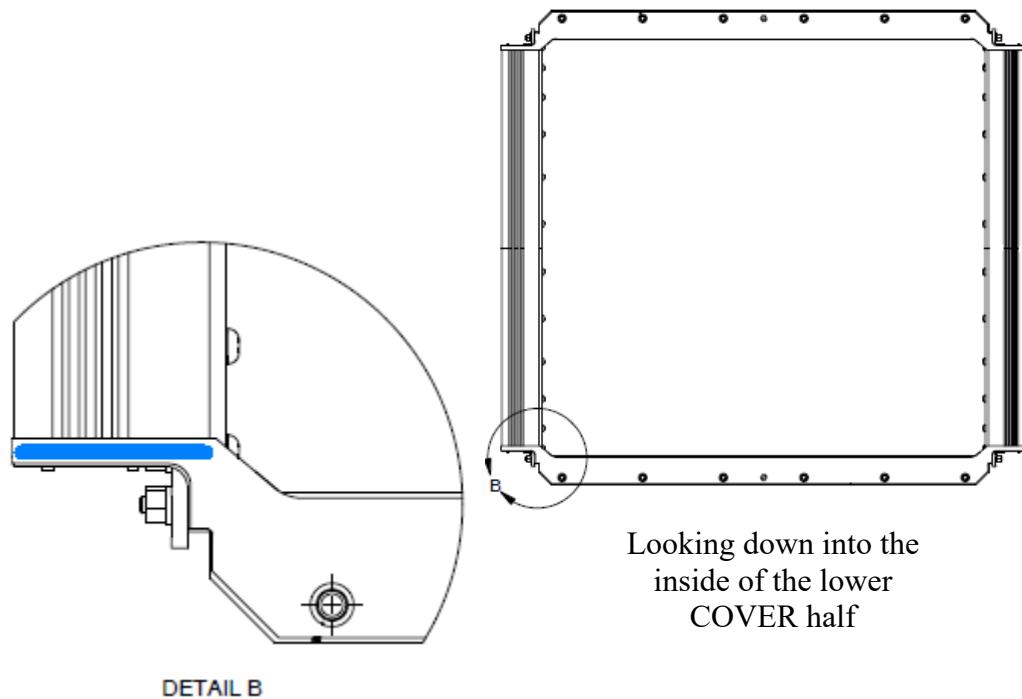

Figure 2-22: Joining Compound Applied to Seal of SS Cover
- c. For the stainless steel COVERs, apply a coating of the blue Joining Compound (comes in the Installation Kit) as shown in *Figure 2-22* onto the section of flange seal over the 2.35" (60mm) length where it covers the boot seal.